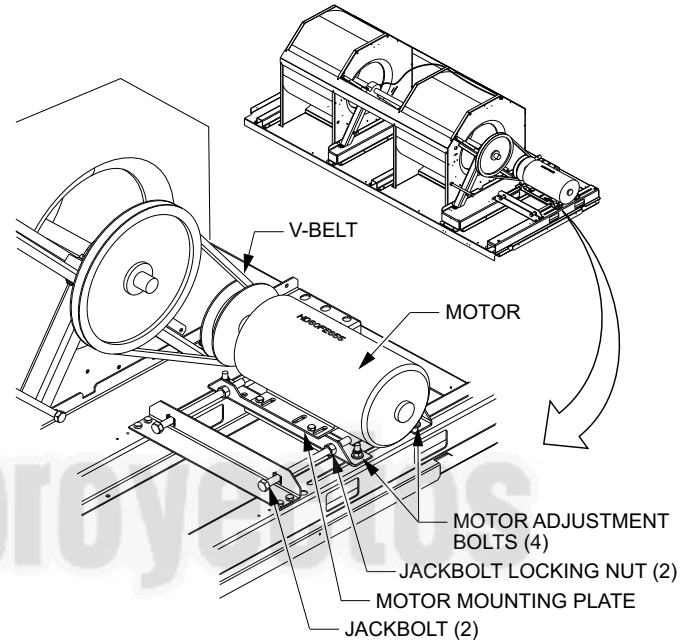

Fig. 7 — Belt Drive Motor Mounting
2. Loosen (turn counterclockwise) the motor mounting plate front bolts and rear bolts. See Fig. 7.
9. Check the tension after a few hours of runtime and re-adjust as required. See Fig. 7.
The motor pulley is an adjustable-pitch type that allows a servicer to implement changes in the fan wheel speed to match as-installed ductwork systems. The pulley consists of a fixed flange side that faces the motor (secured to the motor shaft) and a movable flange side that can be rotated around the fixed flange side that increases or reduces the pitch diameter of this driver pulley. (See Fig. 7.)
3. Loosen the movable pulley flange setscrew. (See Fig. 7.)